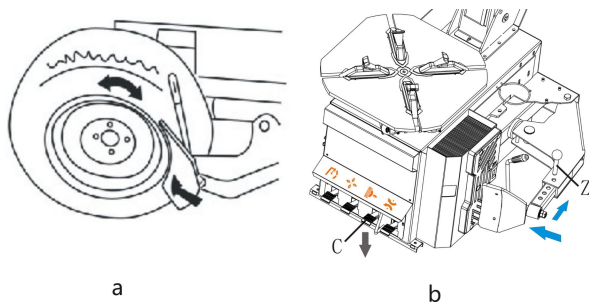

Fig. 17
- Place the tire between the bead breaker shoe and rubber pad and keep the shoe between the bead and rim, about 1cm to the bead (Fig.17-a). Depress pedal C (Fig.17-b) to separate the tire from rim.